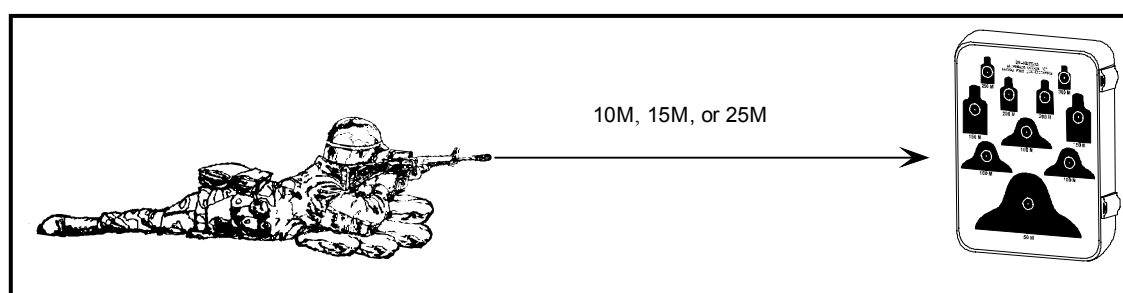

Figure C-4. Exercise 4.
- Step 1.** The soldier assumes the proper firing position using sandbags in the supported position (Figure C-4).